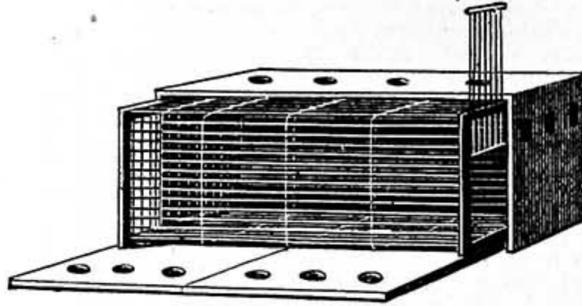

Fig. 1.—White Rat Cage (open).
**Rat Cage.**—J. H. (*Cork*).—Figs. 1 and 2 show a small cage open and closed for white rats or mice. It is really a wire cage made to slide in and out of a wooden box. To make such a cage, cut two strips of mahogany 3 ft. long by  $\frac{1}{2}$  in. Cover one angle with tin; temporarily fasten the tin on; mark off half inches on the two sides covered with tin; then bore the holes for the wires with a strong bradawl through the tin into the wood. This will fasten the